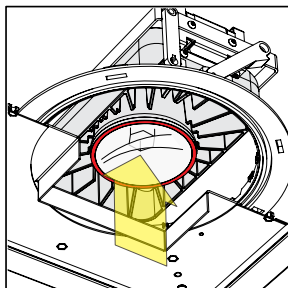

fig. 16
- To set optic at the deep regress position push optic directly up. Light engine will magnetically lock into place (see fig. 16).